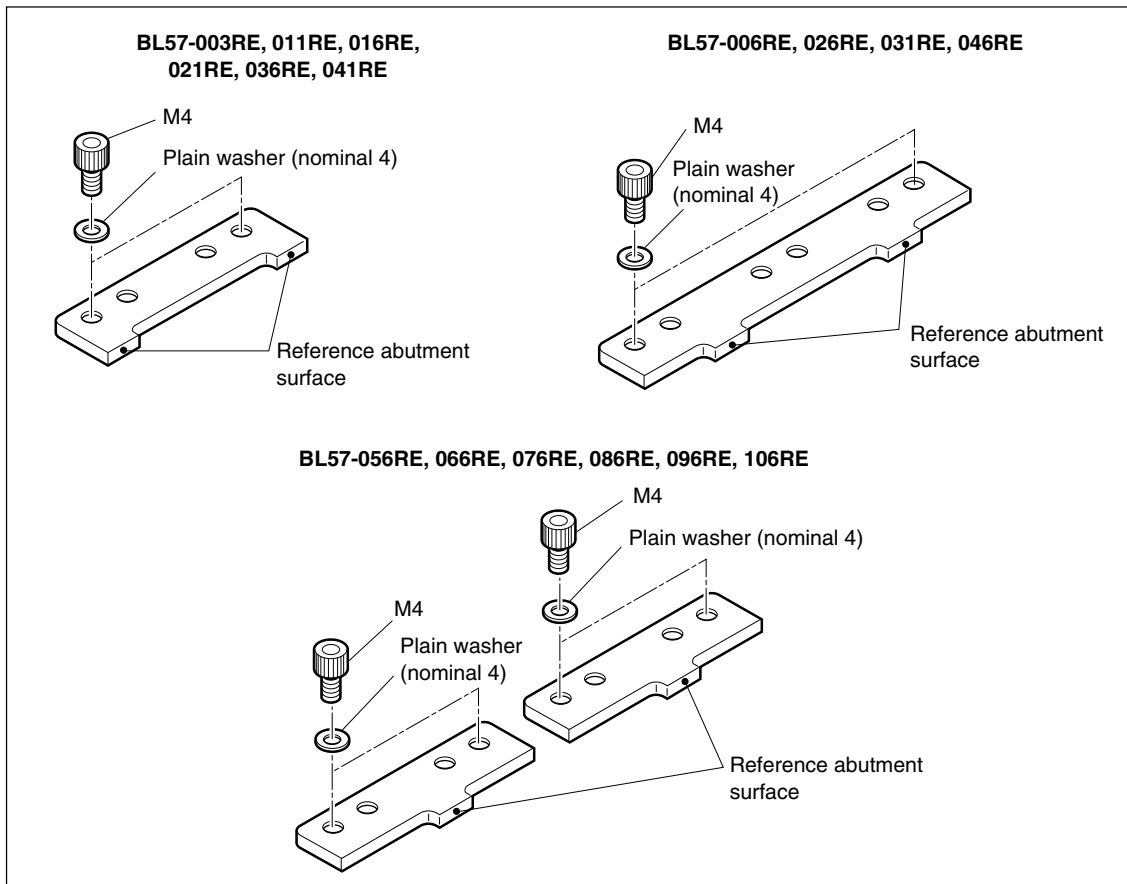

Fig. 3-6
- 4** Insert the scale between the scale clamp and the mounting surface while pressing the datum surface of the scale (see Fig. 3-6) lightly against the reference abutment surface (Note). Gradually and alternately tighten screws A and B of the scale clamp indicated in the figure. (Use only the left-side scale clamp for clamps with two screws, and use the center scale clamp for clamps with three screws.) (Final fastening torque: $1.4 \text{ N} \cdot \text{m}$)